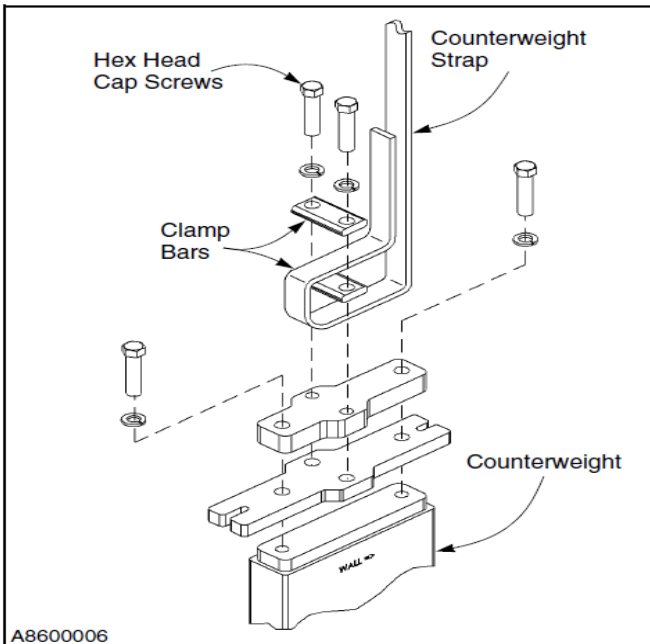

Figure 42
8. Loosen the hex head cap screws to release the clamp bars that secure the strap to the counterweight. (See Figure 42.)